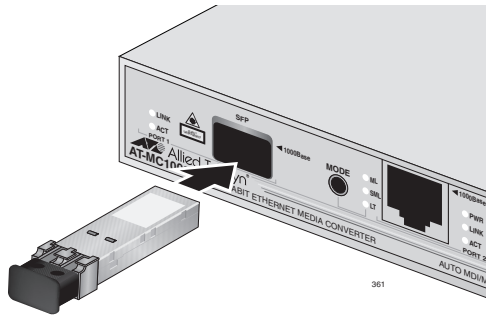

Figure 12. Installing an SFP Transceiver
- Slide the SFP transceiver into an SFP slot on the converter, as shown in Figure 12.